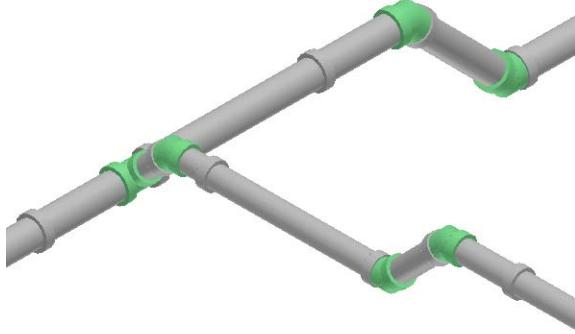

Figure 37: Placed Lateral Sewer Line
- Click in the graphic view to finish routing the lateral sewer line, as shown in Figure 37.